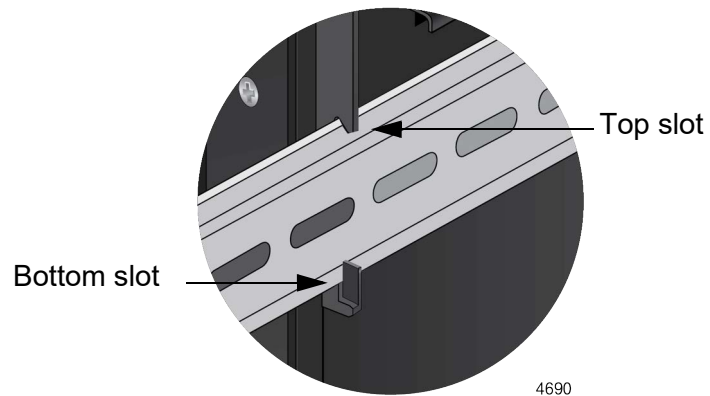

Figure 26. Verifying the DIN Rail Installation
- Visually inspect the bracket to confirm that the DIN rail is now fitted into the top and bottom slots of the bracket, on both the left and right sides. Refer to Figure 26.